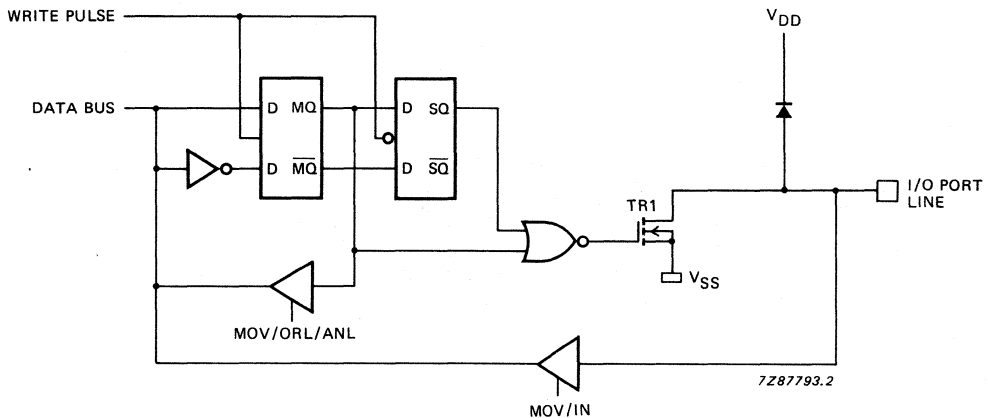

Fig. 11 Open drain output.
- Option 2 —OPEN DRAIN; quasi-bidirectional I/O with only an N-channel open drain output. Application as an output requires connection of an external pull-up resistor (Fig. 11).